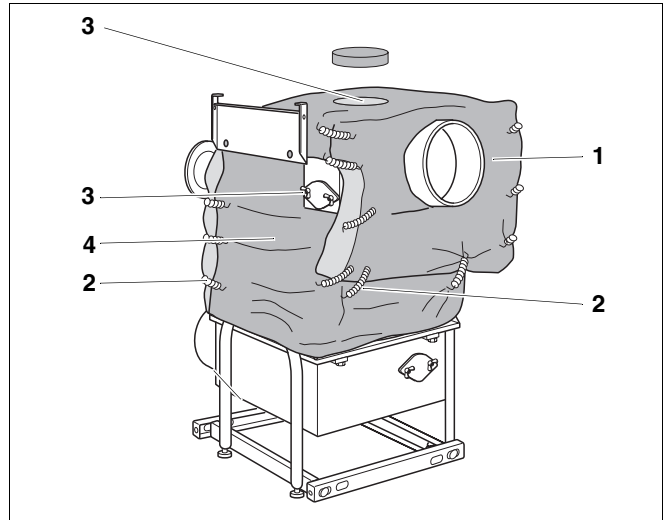

Fig. 10 Fitting insulation
- From above, place insulation (Fig. 10, **Item 1**) over the flue gas distributor and push the right and left side ends behind the beams (Fig. 10).
When fitting the insulation, be careful not to cover the clean-out openings (Fig. 10, **Item 3**) on the top and sides of the flue gas distributor.